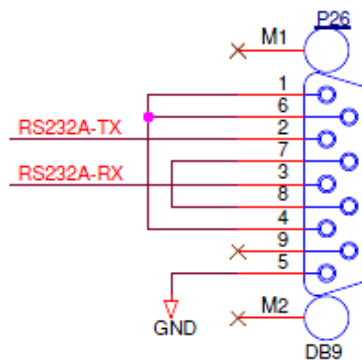

Figure 17. RS232 physical interface connector
- Connected to a standard 9-way female D-type connector (P26) allowing a direct connection to a PC or terminal, pinout being shown in Figure 17,